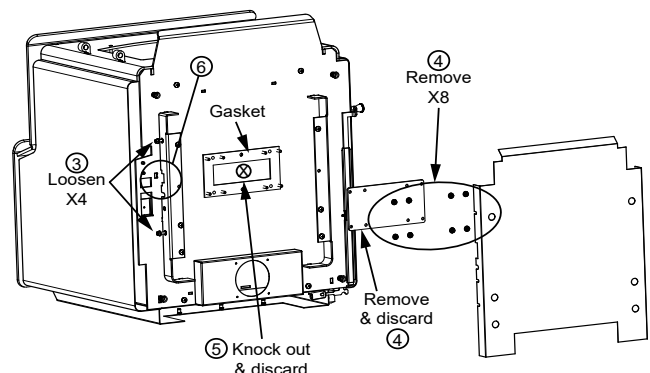

Figure 21.2
3. Lay appliance on its back on a protective pad or pallet (**Figure 21.2**).
4. Remove heat shield by loosening the four bolts using 3/8 open end wrench (**Figure 21.2**).
5. Remove 8 nuts that hold the cover plate on using a 7/16 socket wrench; discard cover plate (**Figure 21.2**).
6. Remove knock out from bottom of firebox by using a hammer (**Figure 21.2**).
3. Lay appliance on its back on a protective pad or pallet (Figure 21.2 on page 21).
4. Remove heat shield by loosening the four bolts using 3/8 open end wrench (Figure 21.2 on page 21).
5. Remove 8 nuts that hold the cover plate on using a 7/16 socket wrench; discard cover plate (Figure 21.2 on page 21).
6. Remove knock out from bottom of firebox by using a hammer (**Figure 21.2 on page 21**).